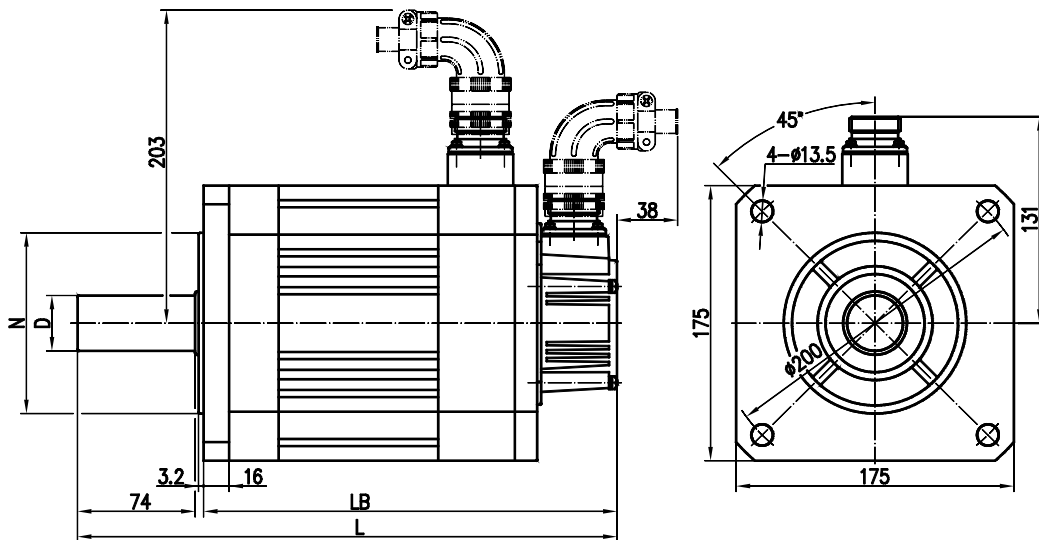

Fig. 6
5.6 Refer to figure 6 and list 12 about 175SJTG series motor overall installation dimension.